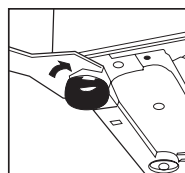

Fig 3
- Adjusting the position of the washing machine. There are adjustable feet under the bottom of the washing machine. Before use, the washing machine should be adjusted, as shown in figure 3, so that it is level.